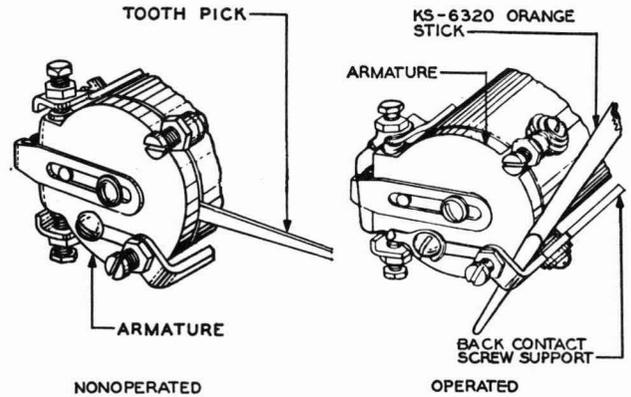

Fig. 9—Blocking 114-, 124-, 126-, 174-, and 198-type Relays
3.11 **114-, 124-, 126-, 174-, and 198-type Relays:** Fig. 9—Block relays nonoperated by inserting the flat end of a toothpick between the armature and the shell. Block relays operated by inserting a KS-6320 orange stick between the armature and the back contact screw support. Insert the orange stick between the support and the edge of the armature, being careful not to strain any of the parts.